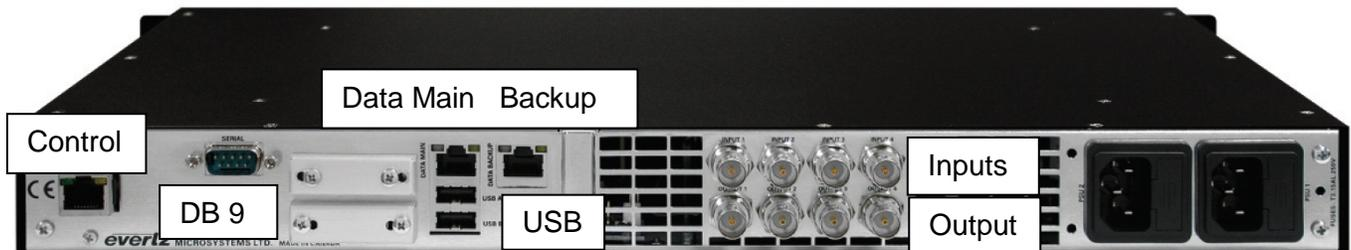

Figure 2-1 : 9780MUX-IPGE Rear Panel
- Connect the Ethernet cable to the CONTROL Ethernet port and the other end to an Ethernet switch. See Figure 2-1.